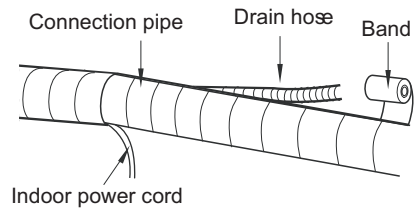

Fig.15
- (2) Reserve a certain length of drain hose and power cord for installation when binding them. When binding separate the indoor power and then separate the drain hose. (As shown in Fig. 15)
- (3) Bind them evenly.
- (4) The liquid pipe and gas pipe should be bound separately at the end.